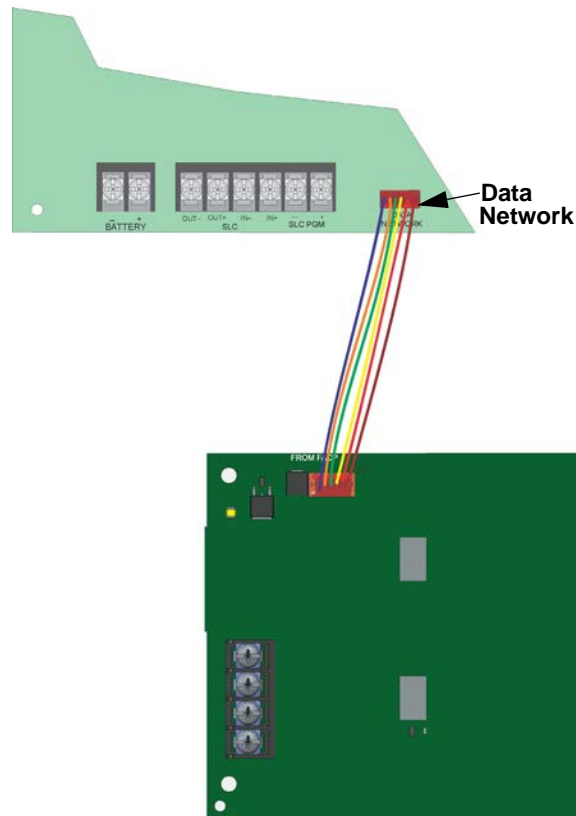

Figure 5.6 Panel to SK-NIC connection
2. Use the 6-pin cable included with SK-NIC to connect the 6820/EVS to the SK-NIC. Connect the SK-NIC to the pin connector on the control panel labeled Data Network. See Figure 5.6.